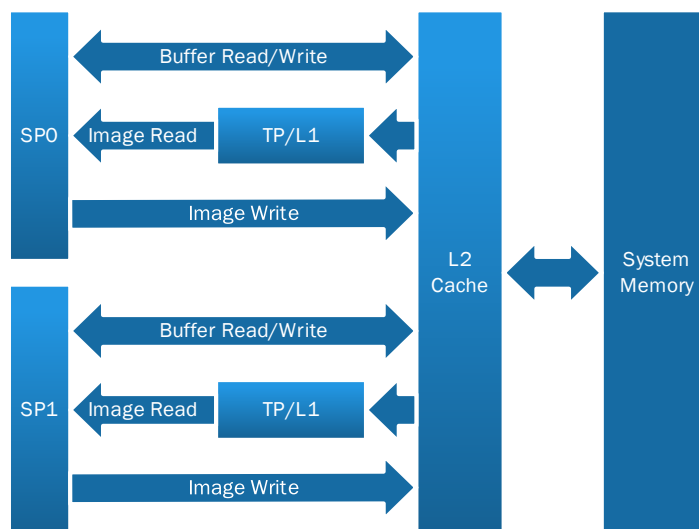

Figure 3-1 High-level architecture of the Adreno GPUs for OpenCL
Adreno GPUs support a rich set of graphics and compute APIs, including the OpenGL ES, OpenCL, DirectX, and Vulkan, etc. Figure 3-1 illustrates a high-level view of the Adreno hardware architecture for OpenCL, where the graphics-only hardware modules are skipped. There are many differences between each generation of Adreno GPUs, while for OpenCL the differences are minor. The key hardware modules for OpenCL execution are as follows:
- Shader (or streaming) processor (SP)
- Adreno GPUs may contain one or more SPs, dependent on GPU series and tiers. A low-tier chipset may have a single SP, while a high or premium tier chipset may have more SPs. In Figure 3-1, there are two SPs.
- Texture processor (TP) and the L1 cache